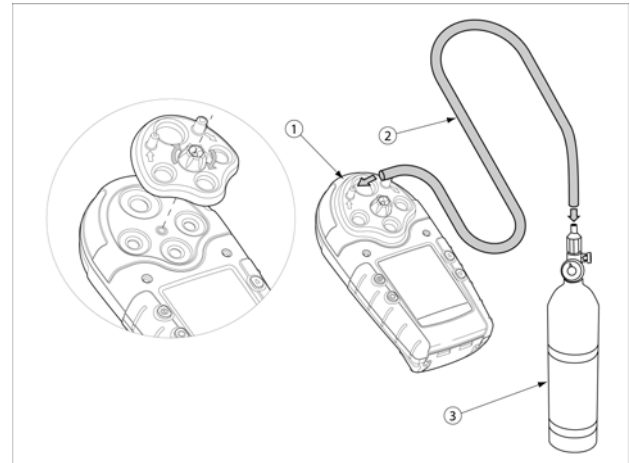

Figure 3. Applying Gas to the Sensors
The calibration hose, which is shipped with the detector, simplifies sensor testing and calibration. Table 10 and Figure 3 show how to use it when applying gas to the sensors.
5. Attach the calibration cap and apply gas to the sensor at a flow rate of 250 to 500 ml/min. (for NH_3 and Cl_2 : 1000 ml/min.). (Refer to Figure 3. Applying Gas to the Sensors.) The display flashes Ⓢ as it spans the sensors.